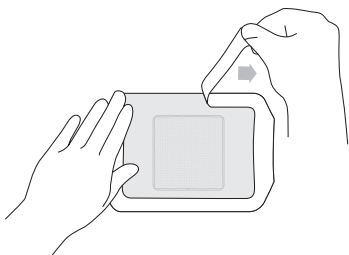

Fig. 9d
- Slowly remove the frame while pressing on self-adhesive dressing. (Figure 9d)